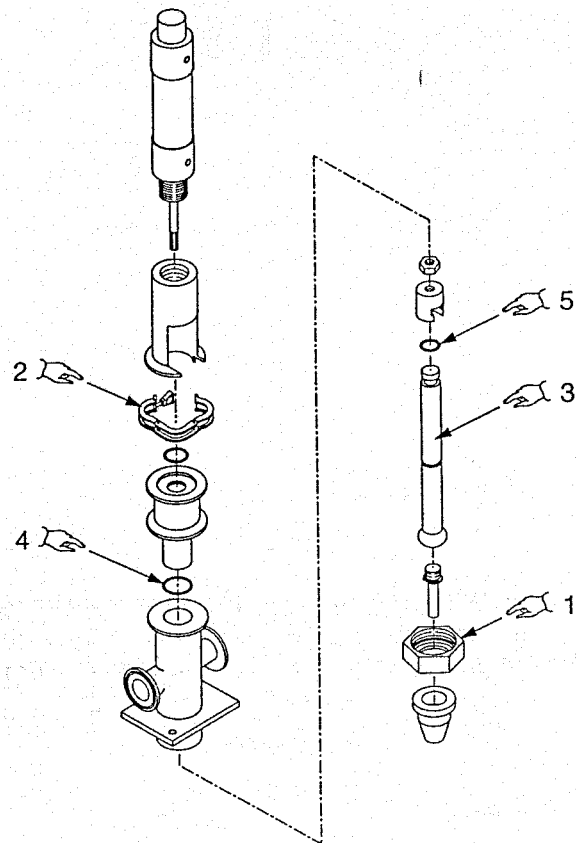

Fig. 7.1
- unscrew the bottom ring nut (*Pos. 1, Fig. 7.1*);
- open the clamp joining the lower and upper parts (*Pos. 2, Fig. 7.1*);
- extract the doser piston shaft (*Pos. 3, Fig. 7.1*).
With the doser dismantled, check the efficiency of the O-rings (*Pos. 4-5, Fig. 7.1*) on the stem. If they are worn, ice cream mix will leak from the top of the doser.